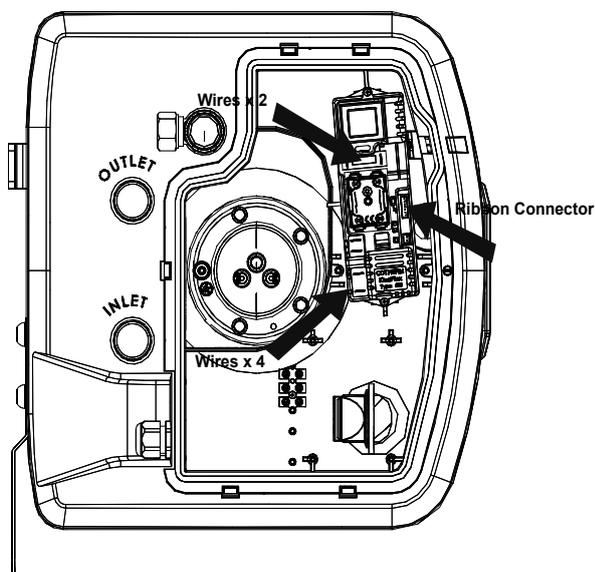

Figure 13: iBD Wiring removal
- ▶ Gently remove the two power wires from the iBD, see fig 13 below opposite.
- ▶ Gently remove the four wires from the iBD, see fig 13 above.
- ▶ Fit the four wires to the iBD, see fig 13 opposite, ensuring that each wire is correctly positioned, each wire is identified with the connection, refer to fig 2 page 7, wiring diagram.
- ▶ Fit the two power wires from the iBD, see fig 13 opposite, observing the correct polarity, L (Red) and N (Black).